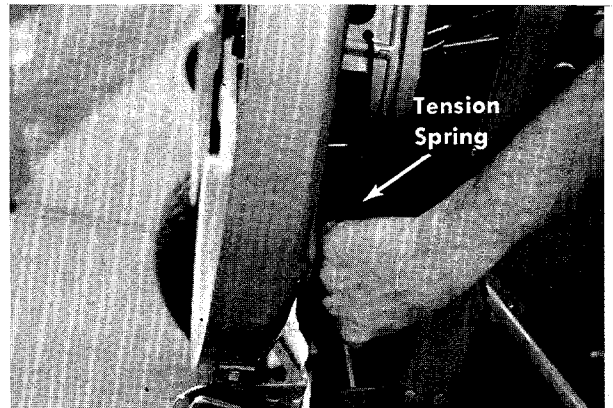

FIGURE 26. REMOVING TENSION SPRINGS
- Step 5. Unhook the tension springs on both sides of the deck. See figure 26.
- a. Remove the entire belt guard from the engine pulley by removing the two front engine bolts. See figure 26.